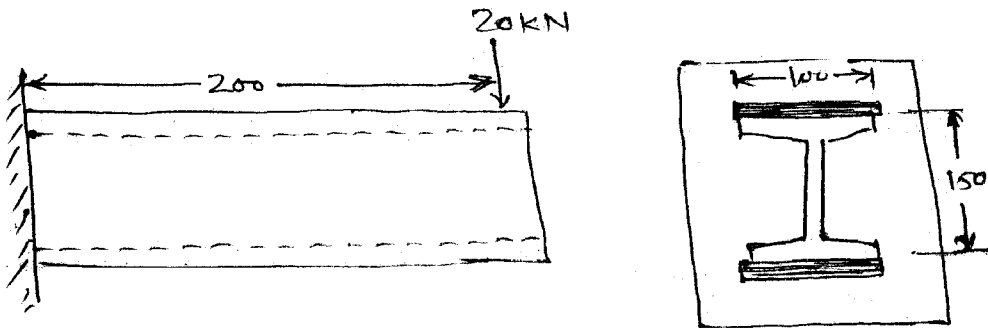

Fig. 1
- 2 (a) A cantilever I-beam (as shown in figure 1) is subjected to a load of 20 kN and fillet welded to a support. Find the weld size, if the design strength of the weld is 85 MPa. 10